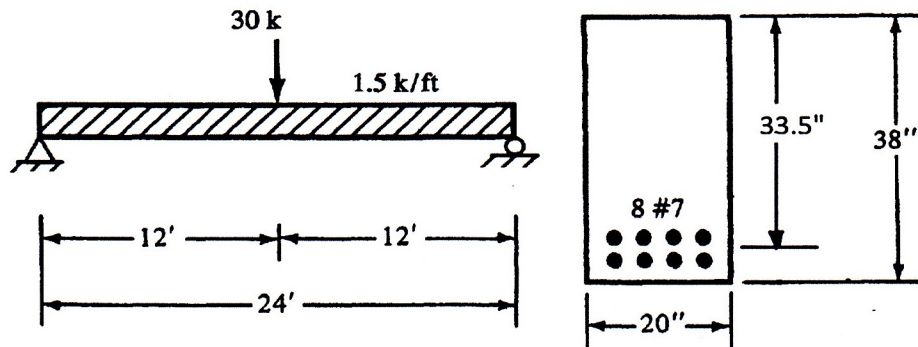

Fig. 3
4. Design the beam (Fig. 3) for shear with a 1.5 k/ft service DL over entire span and a 30 kip concentrated service LL at midspan. Also show the stirrup spacing over the half span. Use #3 U stirrups. Given, $f'_c = 4000$ psi, $f_y = 60000$ psi, $f_s = 24$ ksi. Loads are unfactored. (10)